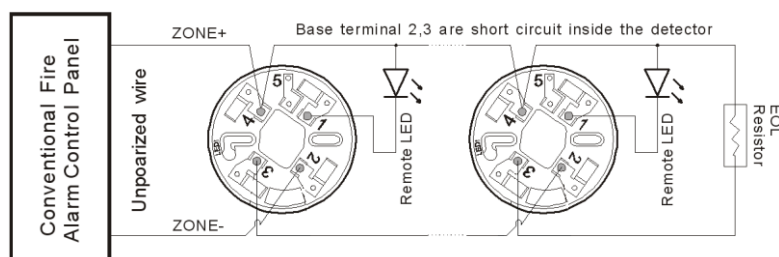

Figure 1. Wiring diagram:
1. Wire the sensor base per the wiring diagram, Figure 1.